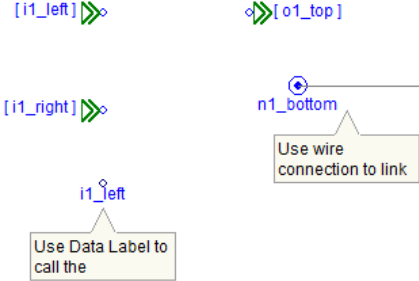

Fig.8. Component ports connection.
Step 5: Port connection inside of the component. The port connection nodes in the component is illustrated in Fig.8. In my example, *i1_left* and *i1_right* are input ports, *o1_top* is the output port, and *n1_bottom* is the electrical port. The input and output ports can be called by using a data signal label with identical name as illustrated in Fig.8. The electrical port should be connected with real wire as illustrated in Fig.8.